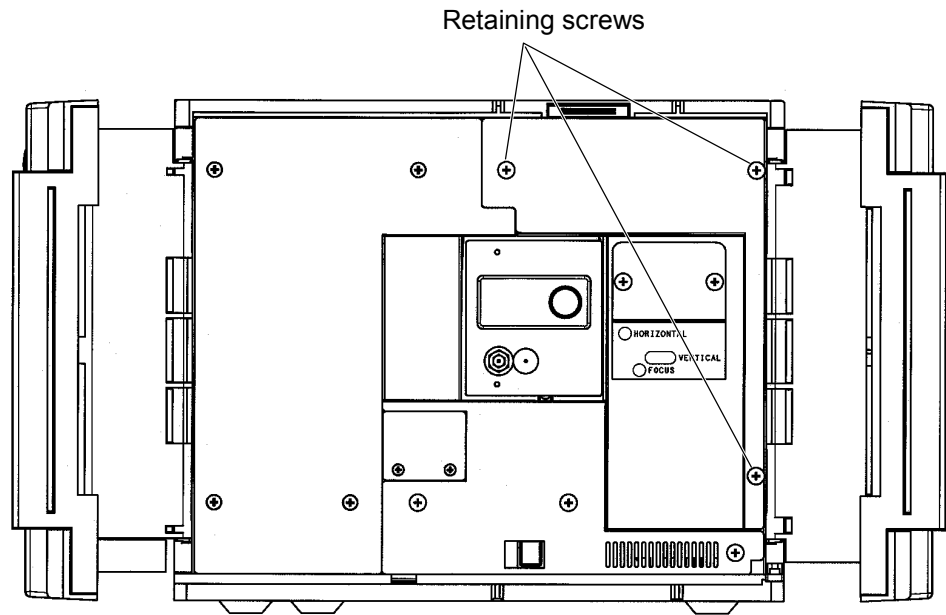

Fig. 5-11 Removal of Light Source Cover
(1) Replacement of Hg Lamp
- (b) Loosen the six retaining screws of the light source cover and detach the cover (Fig. 5-11).